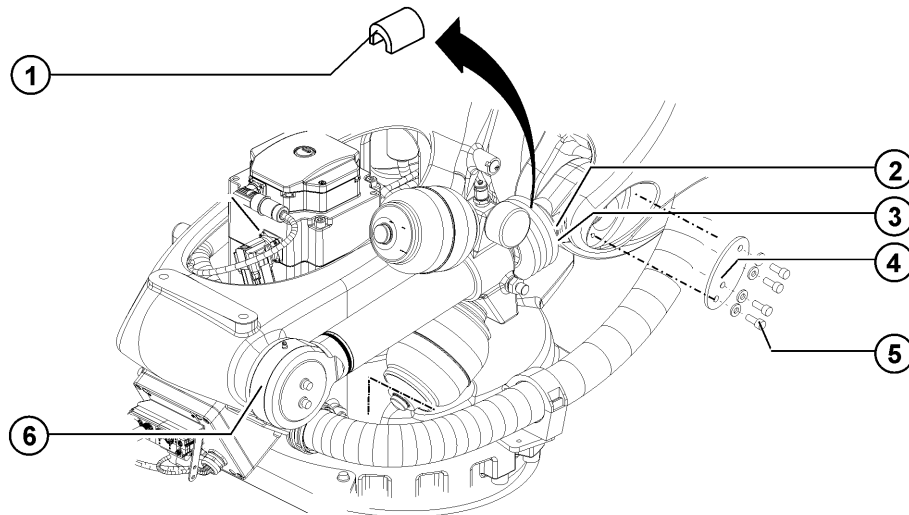

Fig. 11-26: Installing the counterbalancing system: link arm
19. Move the link arm in the plus direction until the spacer between the cylinder and the articulated head is released, and remove the spacer (>>> Fig. 11-26).